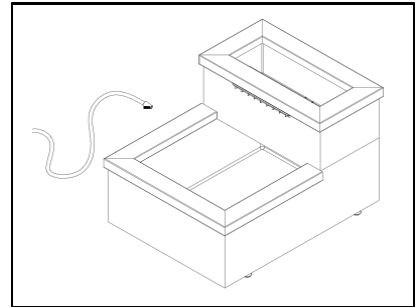

Fig. 14
14. Fill the basin with water, make sure that the plug on basin is closed. Check for leakage. If there is a leak, use the liner patch kit provided. Fig. 14